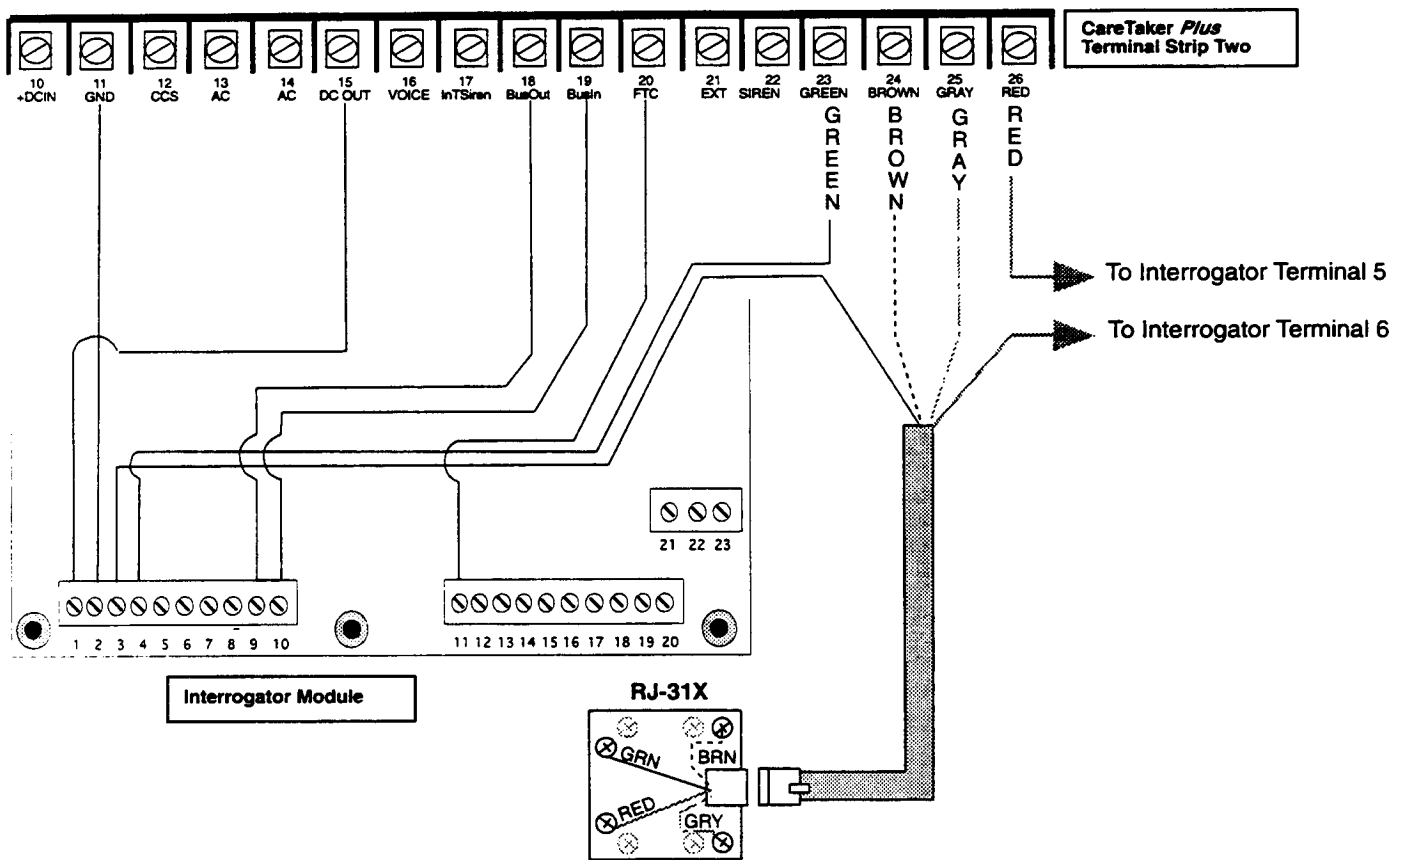

Figure 2.9 CareTaker *Plus* Wiring Diagram
2. Wire the Interrogator Module to the CareTaker *Plus*, using 22-gauge stranded wire. Follow the wiring diagram in Figure 2.9.
3. Connect the phone circuits as shown in Figure 2.9.